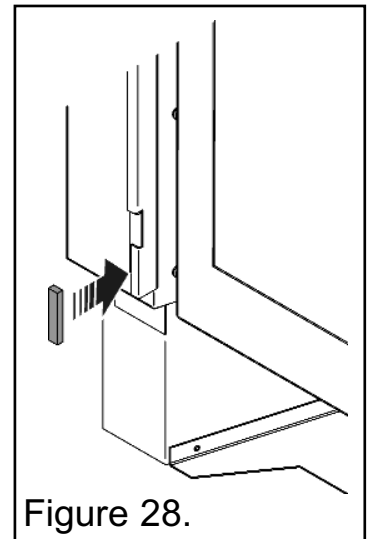

Figure 28.
8. Ensure that the magnets on the side baffles are located as in figure 28.